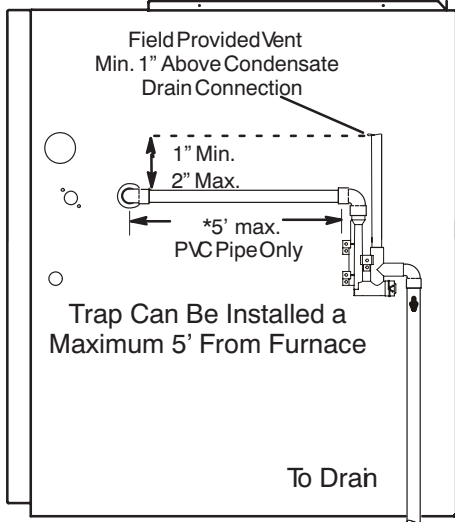

**FIGURE 41**
- 2 - For furnaces with a 1/2" drain connection use a 3/8 allen wrench and remove plug (FIGURE 41) from the cold end header box at the appropriate location. Install field-provided 1/2 NPT male fitting into cold end header box. For furnaces with a 3/4" drain connection use a large flat head screw driver or a 1/2" drive socket extension and remove plug. Install provided 3/4 NPT street elbow fitting into cold end header box. Use Teflon tape or appropriate pipe dope
**NOTE** - Appropriately sized tubing and barbed fitting may be used for condensate drain. Attach to the drain on the trap using a hose clamp. See FIGURE 41.